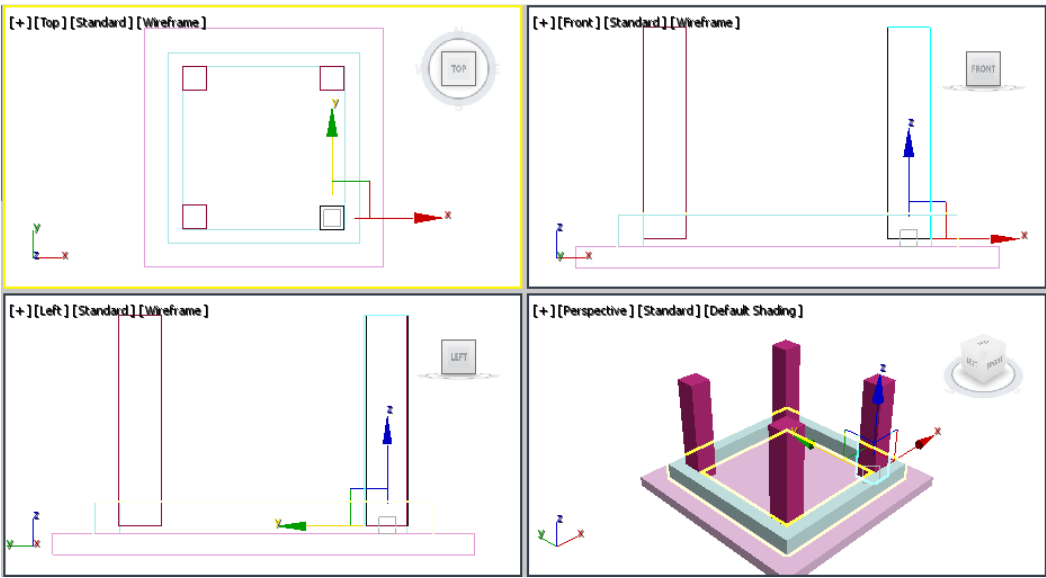

Figure 5-7 The four legs of the table created and aligned to their correct places
6. Similarly, create a copy of *Leg03*. Next, name it as **Leg04** and place it at the lower-right corner of *Frame*; the four legs of table are created and aligned, as shown in Figure 5-7.